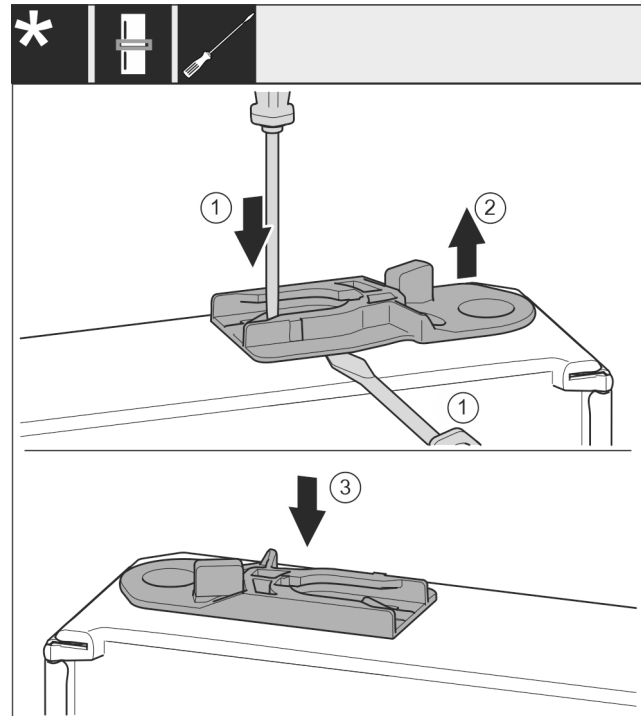

Fig. 36
- Pull out the guide bush: Press the lug with a slotted screwdriver and, at the same time, insert the slotted screwdriver under the guide bush. Fig. 36 (1, 2)
- Slide the guide bush included in the scope of supply to the other side of the housing. Fig. 36 (3)